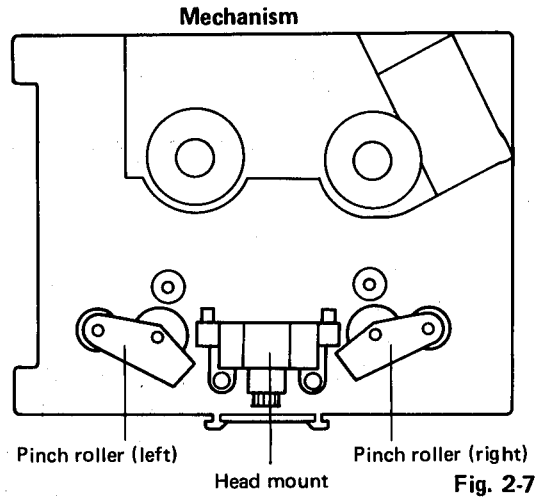
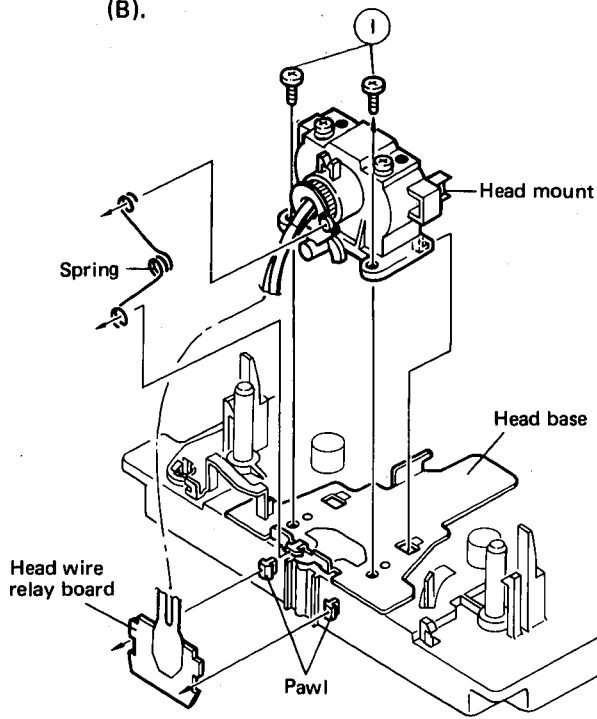
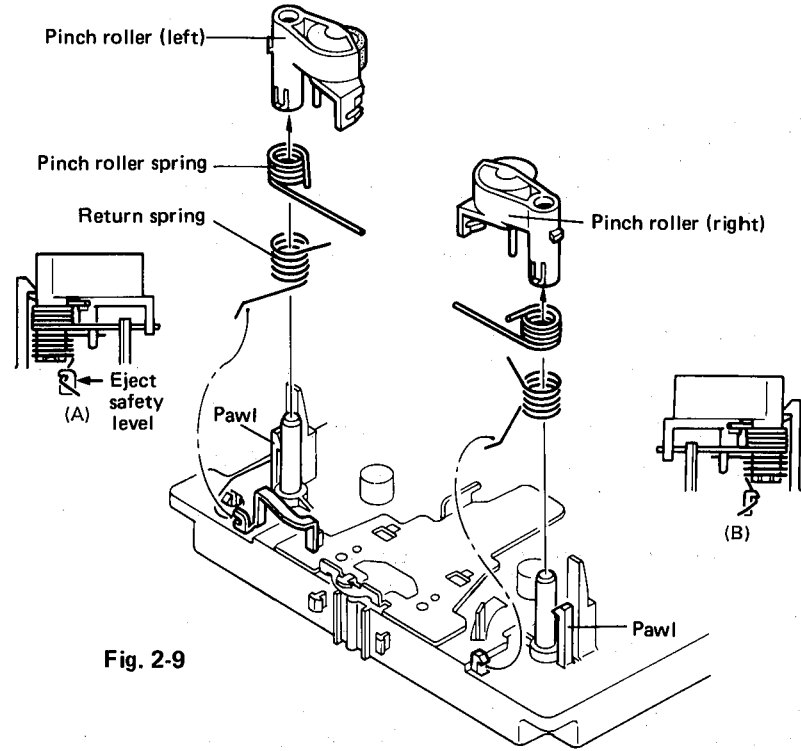

Fig. 2-7
Fig. 2-8
Fig. 2-9
■ **Head mount assembly** (Fig. 2-7, Fig. 2-8)
- 2) Remove two screws ① retaining the head mount ass'y from the head base.
- 3) Remove the head gear (1) and head spring.
■ **Pinch roller assembly** (Fig. 2-7, Fig. 2-9)
- 3) For reengaging the spring, refer to the figures (A) and (B).